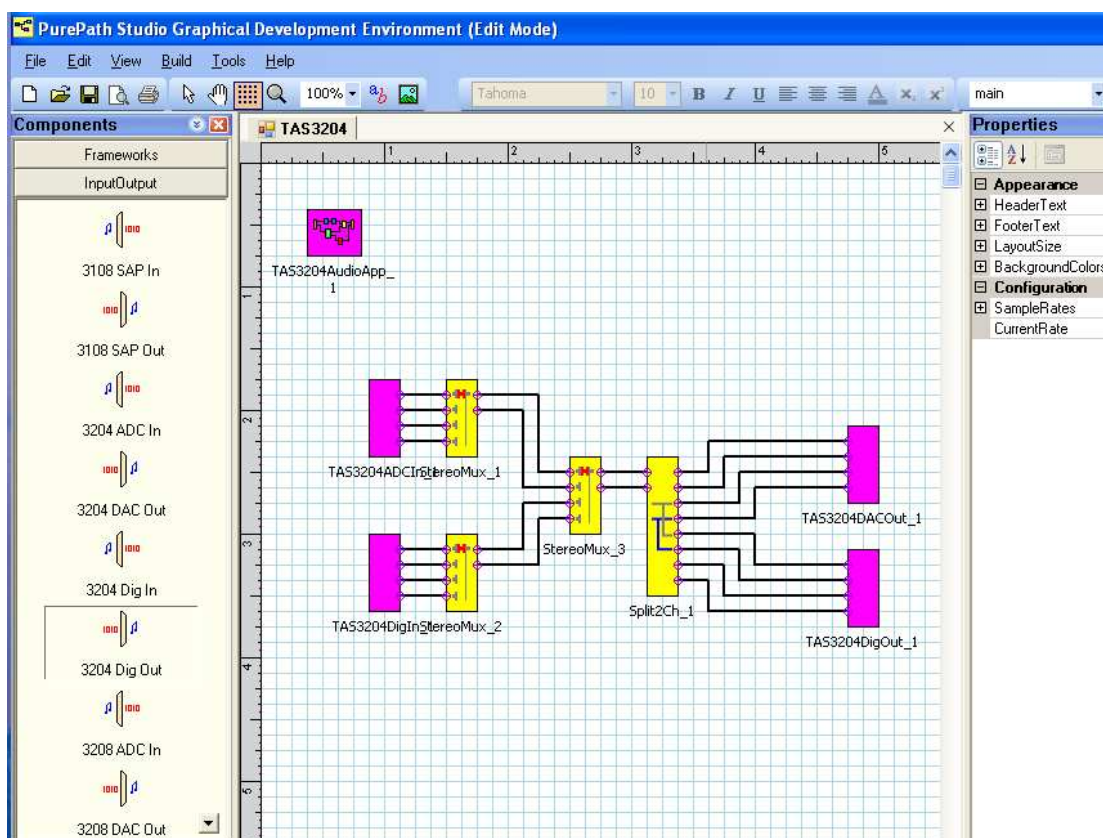

Figure 2-1. GDE Window – Load Process Flow
4. From the File menu, load the process flow file TAS3204.pfw (see Figure 2-1). The file is located on the CD ROM.